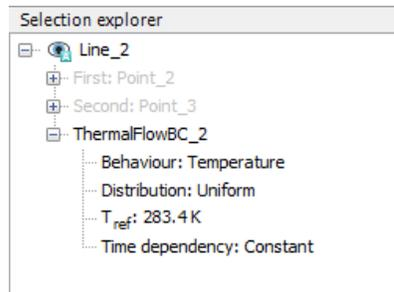

Figure 228: Thermal boundary condition in the *Selection explorer*
9. Set the reference temperature, T_{ref} to 283.4 K which is shown in Figure 228 (on page 261).